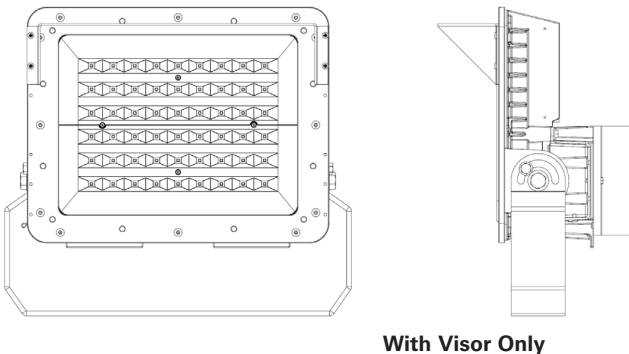

Figure 7
3. Carefully align visor with four (4) screw holes at the top of the fixture shown in Figure 7.